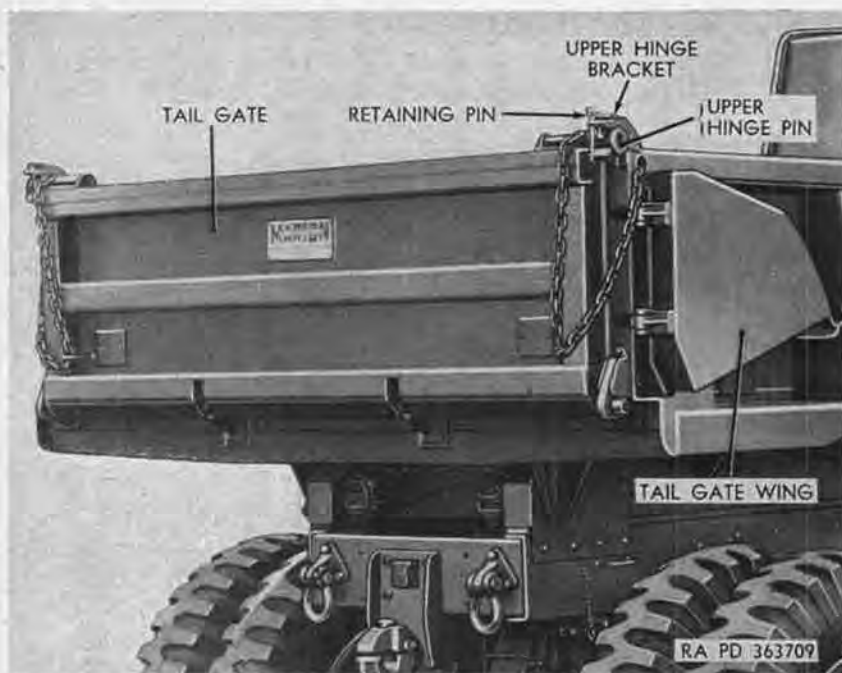
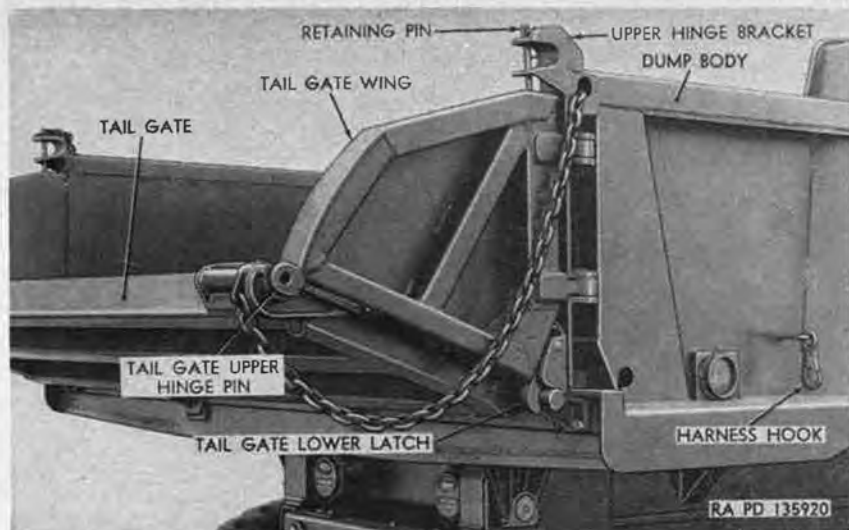

Figure 95. Dump body tailgate in closed position.
Figure 96. Dump body tailgate arranged for rocker operation.
- (8) Push the tailgate-control-rod hand lever up and back as far as it will go to lock the tailgate (fig. 95) in the closed position.
- (1) Position truck for dumping, and stop the truck (par. 46c).
- (2) Unfasten the harness hooks (fig. 95) used to secure the tailgate wings to the sides of the dump body, and swing the tailgate wings to the rear.
- (3) Remove the retaining pins (fig. 95) which secure the tailgate upper hinge pins to the upper hinge brackets (one on each side), and lower the tailgate (fig. 96) so that the hinge pins engage the grooves in the tailgate wings.
- (4) Perform operations described in b(3) through (7) above.
- (5) Push the tailgate up and secure it to the upper hinge brackets with the retaining pins (fig. 95).
- (6) Swing the tailgate wings forward and secure them to the sides of the dump body with the harness hooks.
- (11) Push the hand lever up and back as far as it will go to lock the tailgate (fig. 95) in the closed position.